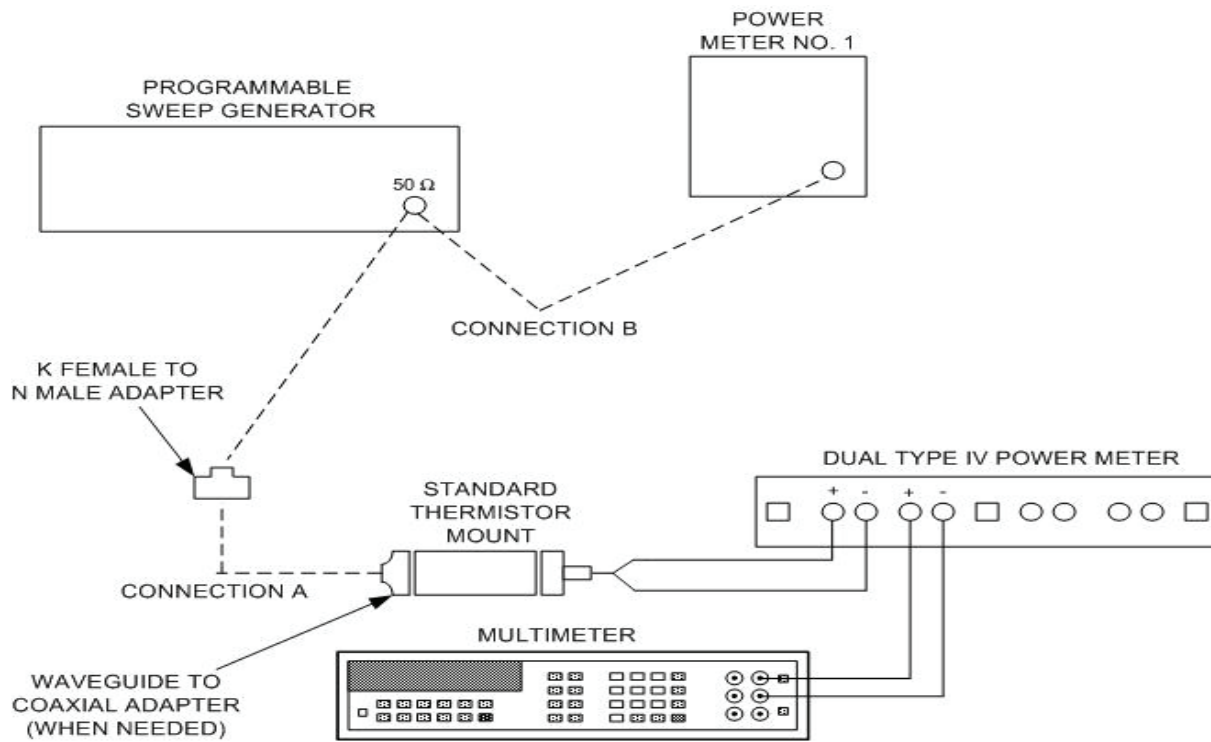

Figure 2. Thermistor mount/power sensor (10 to 40 GHz) - equipment setup.
- e. Connect equipment as shown in figure 2.
- (7) Connect equipment as shown in either figure 2 or 3, CONNECTION B.
- (8) Allow enough time for TI to stabilize and record power meter No. 1 indication.
- (9) Use formula below and calculate substituted dc power level for standard thermistor mount.